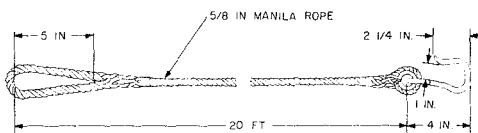

Fig. 4—Underground Handline
**5.01** The underground handline shown in Fig. 4 is intended for use in outside plant splicing operations. It consists of 20 feet of 5/8-inch manila rope with an eye splice at one end to facilitate setting up cables in manholes and a hook at the other end for attaching tools and materials to the handline for raising or lowering operations.